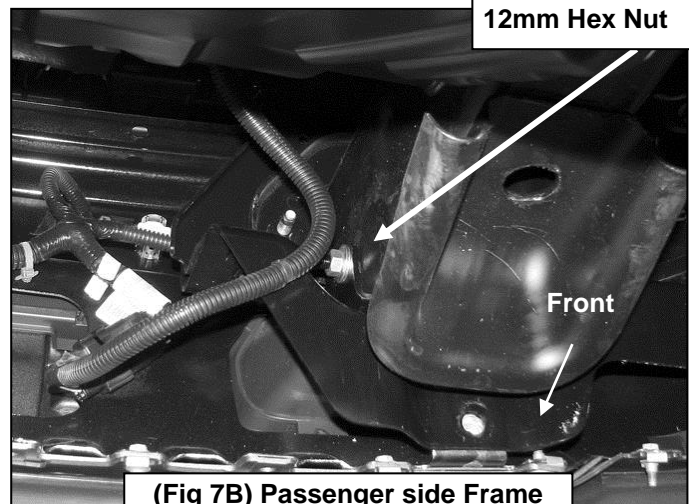

**Fig 7A**
3. Select (1) 12mm Double Bolt Plate, **(Figure 6A)**. Insert the Bolt Plate into the end of the frame channel, through the (2) holes in the side of the frame and out through the Bracket. Secure the Bolt Plate to the Bracket with (2) 12mm Flat Washers, (2) 12mm Lock Washers and (2) 12mm Hex Nuts, **(Figure 6B)**. Snug but do not fully tighten hardware at this time. Repeat to install the 12mm x 35mm Single Bolt Plate, **(Figure 7A)**, in the remaining hole in the other side of the frame channel and Bracket, **(Figures 7B & 7C)**.